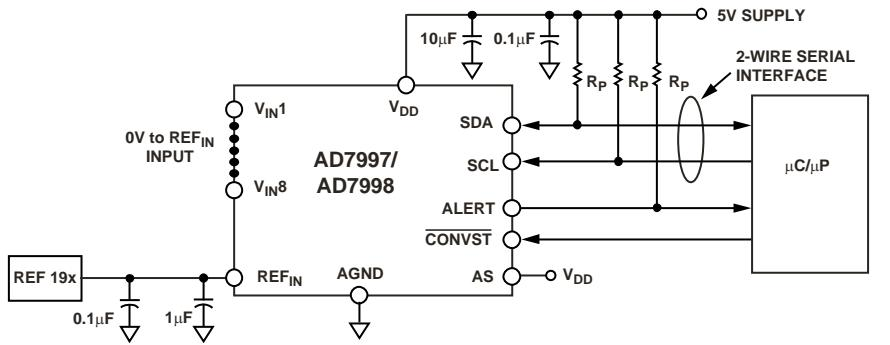

Figure 22. AD7997/AD7998 Typical Connection Diagram
The typical connection diagram for the AD7997/AD7998 is shown in Figure 22. In this figure, the address select pin (AS) is tied to V_{DD} ; however, AS can also be tied to AGND or left floating, allowing the user to select up to five AD7997/AD7998 devices on the same serial bus. An external reference must be applied to the AD7997/AD7998. This reference can be in the range of 1.2 V to V_{DD} . A precision reference like the REF 19x family, AD780, ADR03, or ADR381 can be used to supply the reference voltage to the ADC.